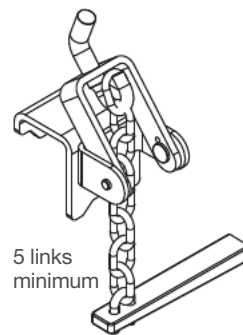

Figure 10
**NOTE:** Figures 10 and 11 show the correct and incorrect hook-up position of the spring bars. To allow movement when turning, there should be at least five links between the lift bracket and the spring bar. The number of links should be the same on both bars. Adjust head tilt to accomplish correct chain length.